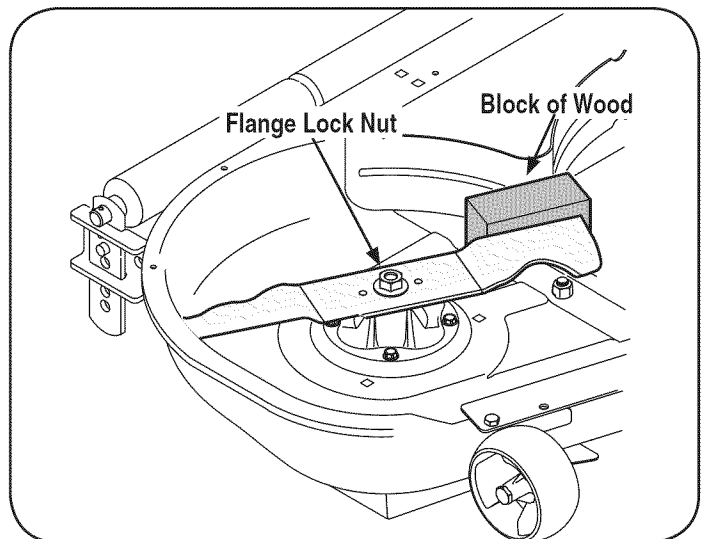

Figure 18
2. Place a block of wood between the center deck housing baffle and the cutting blade to act as a stabilizer. See Figure 18.
3. Remove the hex flange nut that secures the blade to the spindle assembly. See Figure 18.